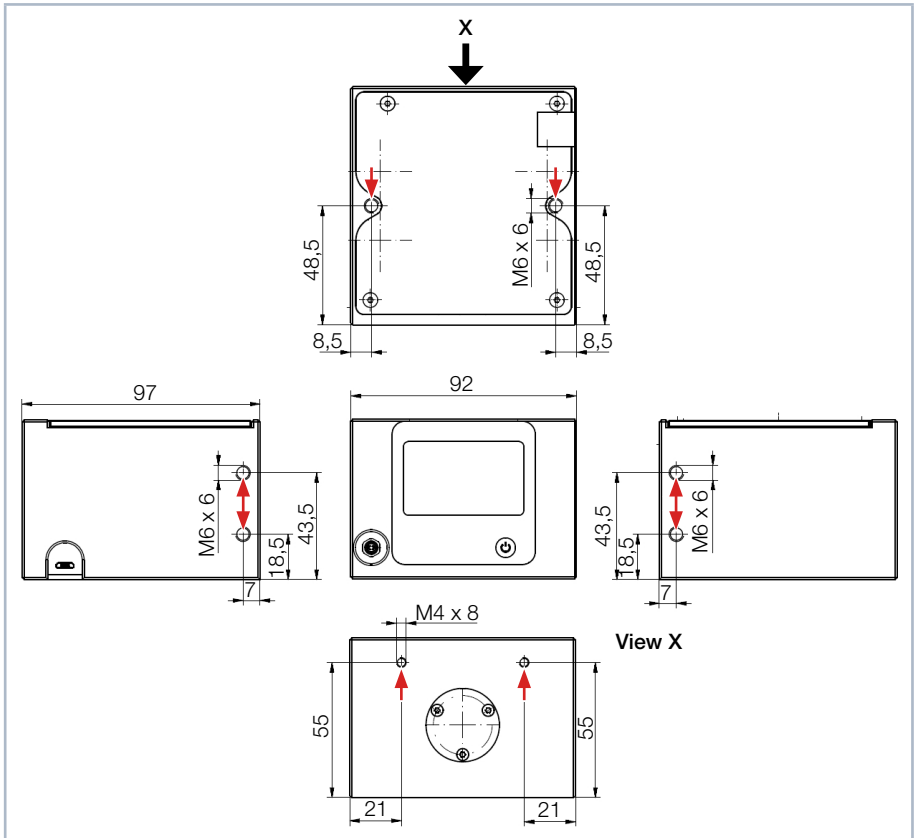

Fig. 8.2: Mounting threads in the housing
2. Install the device with the mounting threads as shown in Fig. 8.2 on page 17.
3. Unscrew the mounting screws from the mounting threads (see Fig. 8.2 on page 17).